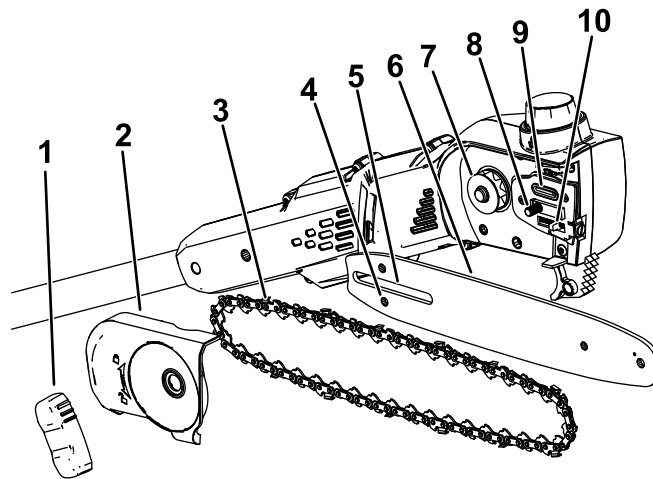

Figure 3
2. Remove the side cover; turn the bar cover knob counterclockwise until the knob is removed and then remove the side cover (Figure 3).
5. Position the open loop of the chain (the side not on the guide bar) around the drive sprocket on the pole saw (Figure 3).
**Important:** Ensure that the chain adjusting stud is inserted into the chain adjusting stud slot on the guide bar (Figure 3).